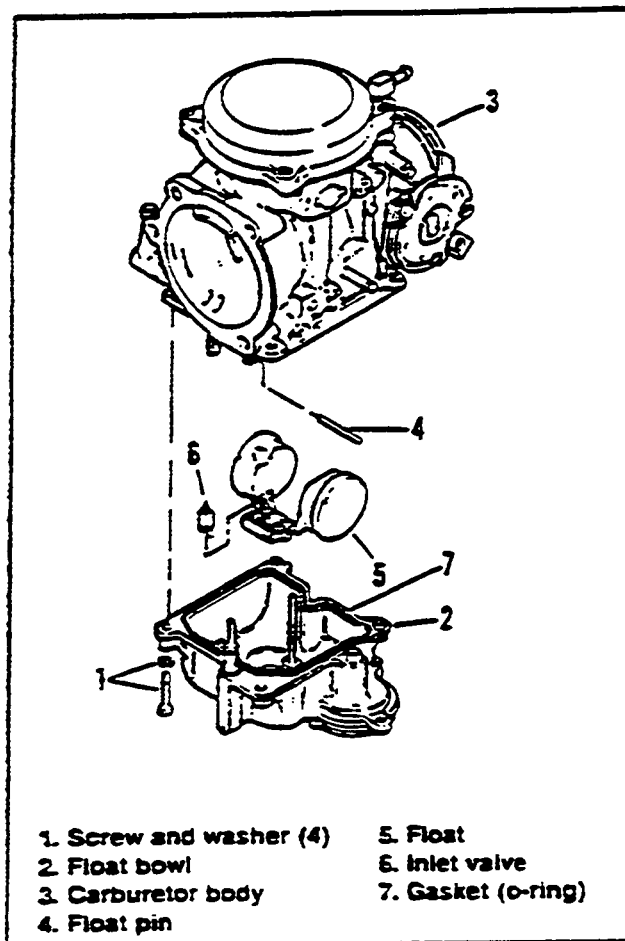
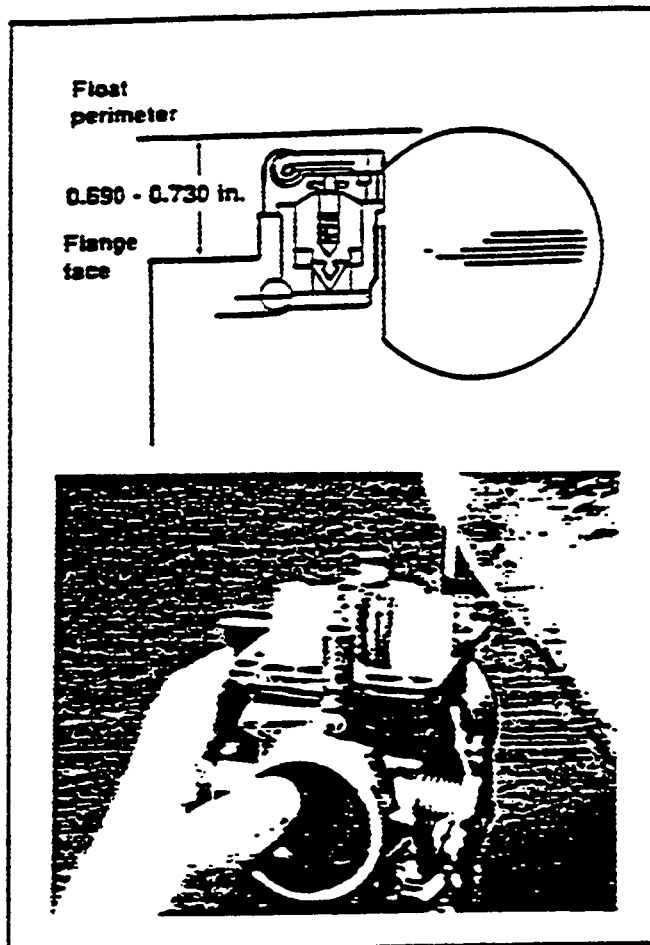
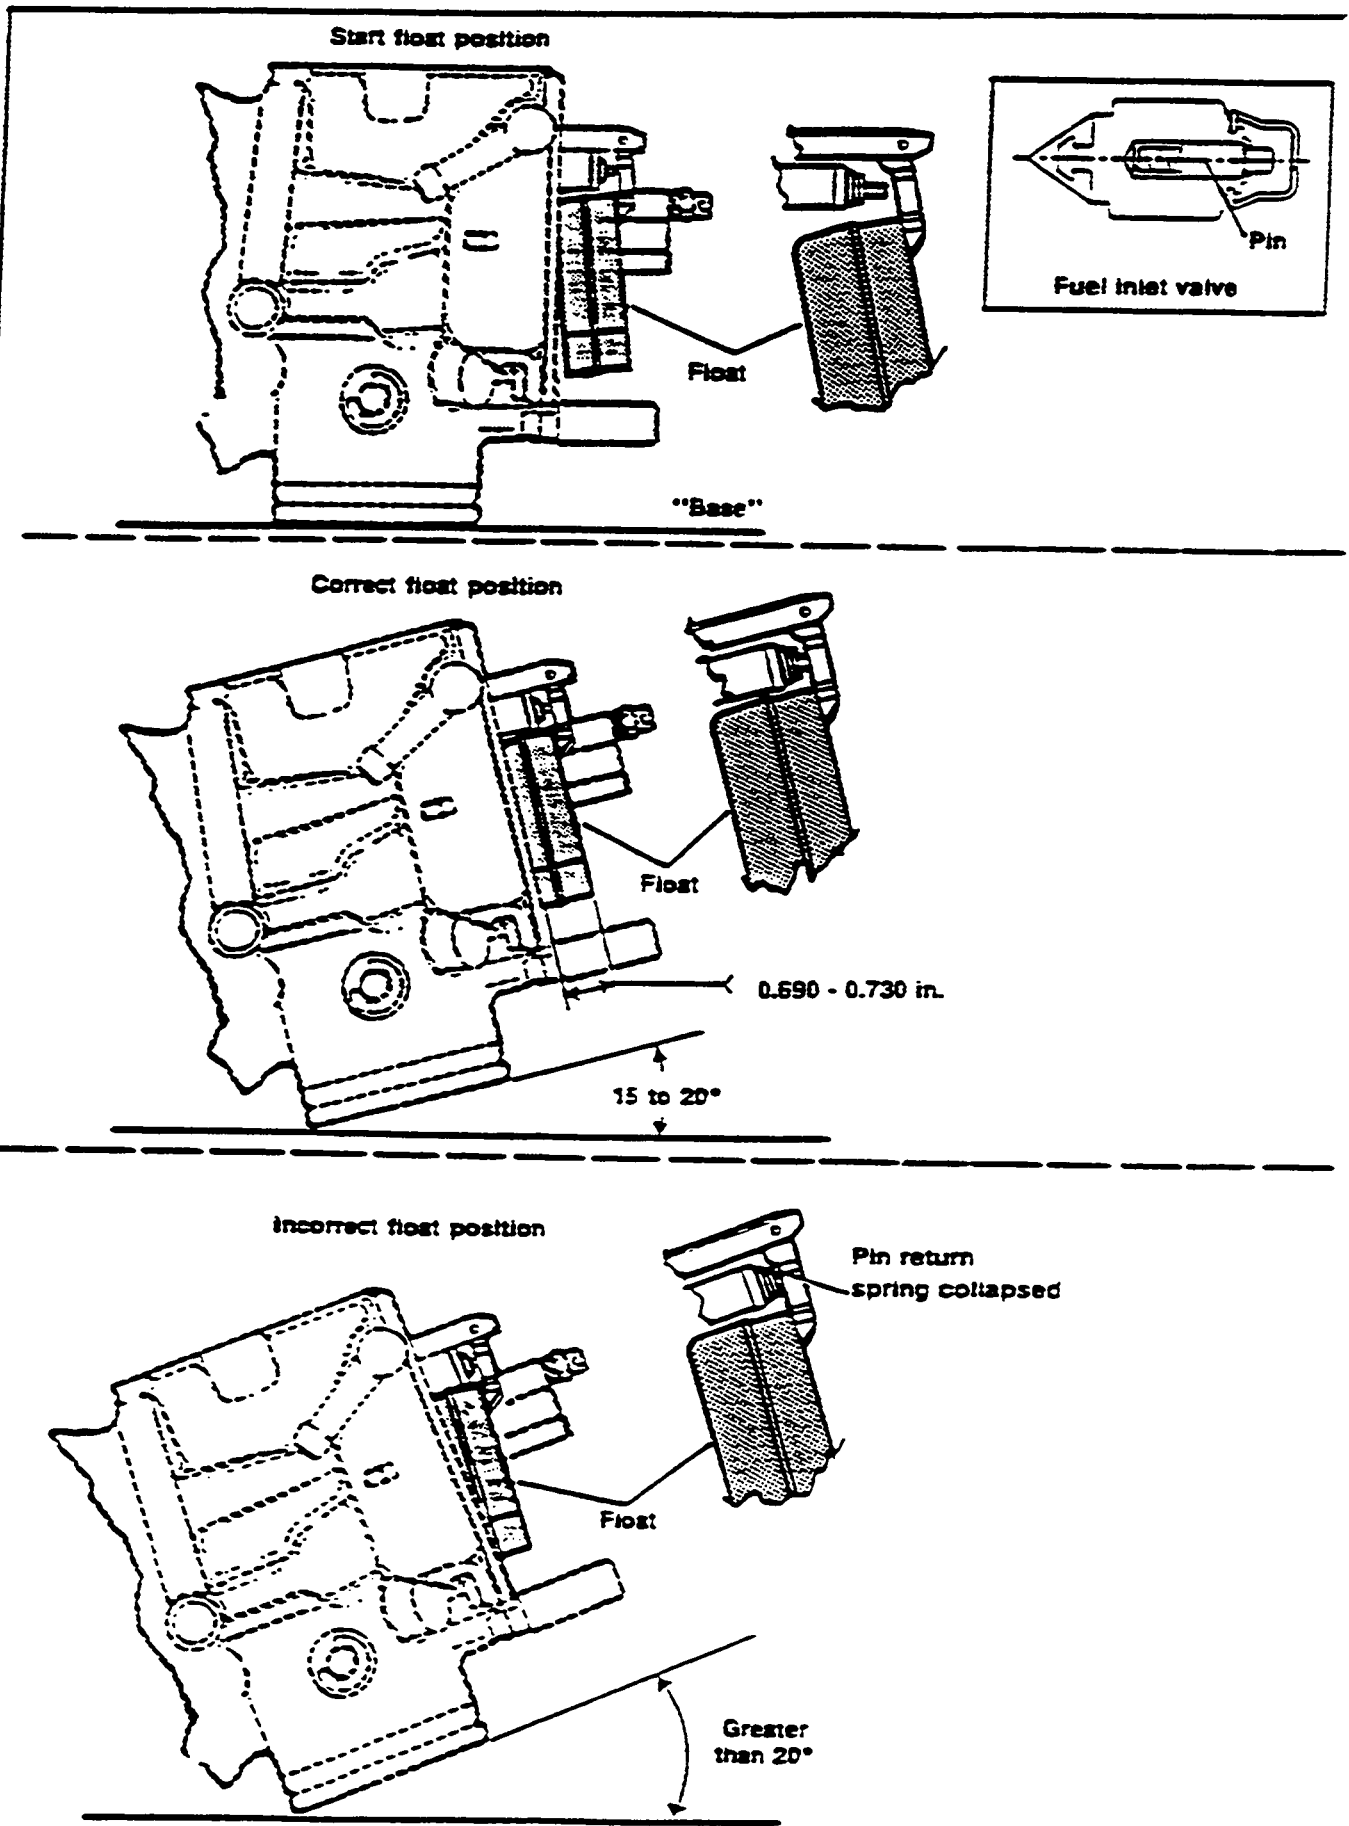

Figure 2. Carburetor Disassembly
Figure 3. Float Level With 3-Sided Inlet Valve
Figure 5. Adjusting Float Level With 4-Sided Inlet Valve
1. See Figure 2.
2. Use a needle nose VISE-GRIP® to loosen the four screws and washers (1) that secure the float bowl (2) to the carburetor body (3).
4. Check float level. If inlet valve has 3-sides, see Figure 3. If inlet valve has 4-sides, see Figure 5.
5. See Figure 2. Remove float pin (4), float (5), and inlet valve (6).
9. See Figure 2. Check float bowl o-ring (7). If o-ring is damaged it must be replaced.
1. See Figure 2. Place clip on inlet valve on float tab. Install inlet valve in valve seat and install float pin (4).
2. See Figure 5. Place carburetor on a flat, clean surface on engine manifold side. This is the "base". Tilt carburetor counterclockwise 15 to 20° from base until float comes to rest.
6. Install float bowl, enricher cable, and VOES vacuum line on carburetor. Tighten the four float bowl screws (1, Figure 2) to 18 ± 3 in-lbs. Tighten float bowl drain screw.